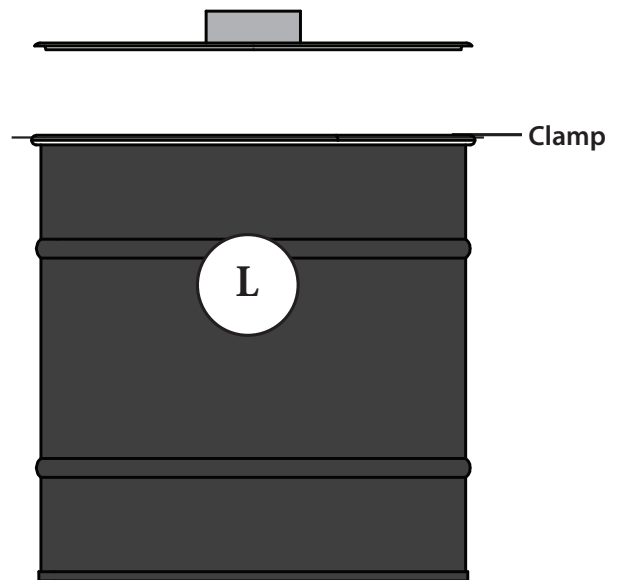

FIG. 28
Seal the Drum (L) closed using the provided clamp [FIG. 28].